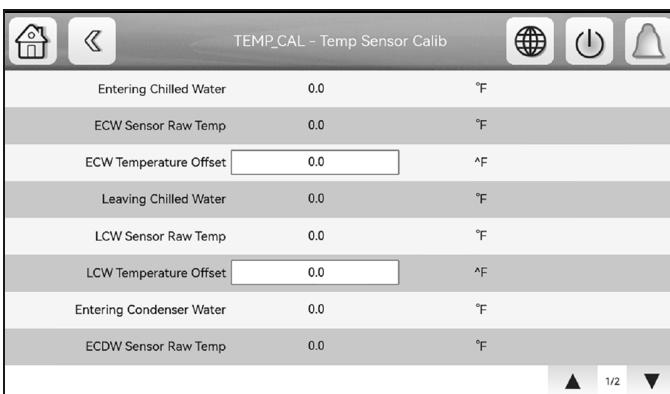

Fig. 44 — Temp Sensor Calib Screen, Page 1
- In the Temp Sensor Calib screen, enter the temperature offset for the appropriate sensor as calculated in Step 4. See Fig. 44.